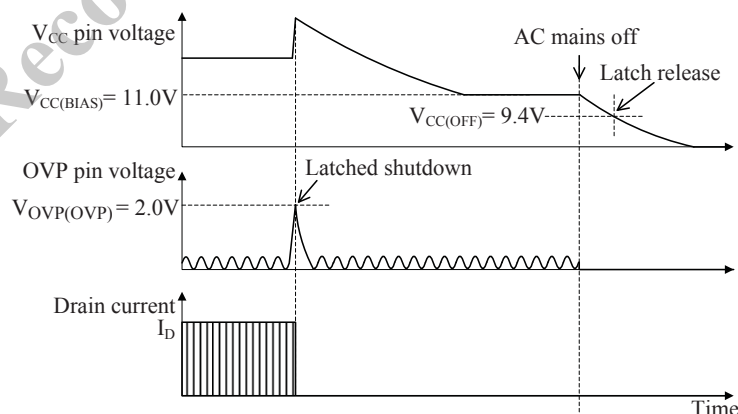

Figure 21. Waveforms when OVP pin OVP function is being activated
• OVP Pin Overvoltage Protection. Figure 21 shows the waveform of the OVP function on the OVP pin. When the OVP Pin voltage with reference to the S/GND pin reaches  $V_{OVP(OVP)} = 2.0\text{ V}$  or more, OVP is activated, and the IC stops switching operation in latch mode. This input voltage must be less than the absolute maximum rating, 5V.